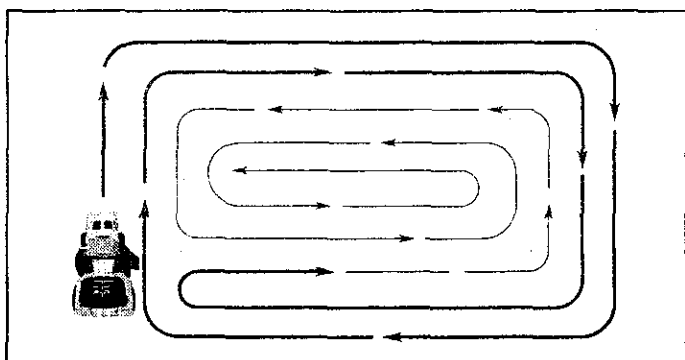

FIG. 12
- When mowing large areas, start by turning to the right so that clippings will discharge away from shrubs, fences, driveways, etc. After one or two rounds, mow in the opposite direction making left hand turns until finished (See Fig. 12 ).